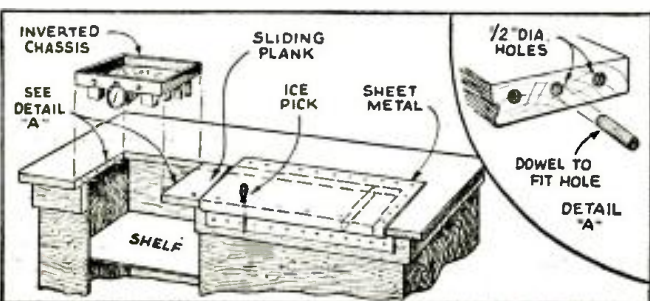

Fig. 5. How to build your work bench so that a chassis may be safely inverted.
**INVERTED-CHASSIS HOLDER.** This chassis holding scheme is very handy and it may be converted to a substantial part of the bench when not in use. The essentials are shown in Fig. 5, the shelf under the bench being used for support of speaker or midget cabinet, leaving the top of the table entirely clear for the test equipment. A series of holes is drilled along the edge of the sliding member to coincide with holes in the sheet metal section, so that the ice pick, when placed through the two, will prevent the sliding piece from moving out of place. The dowel pins are moved into such holes as are most convenient for the particular chassis under repair. It is preferable to cover the metal portion of the bench with insulating material, such as linoleum.